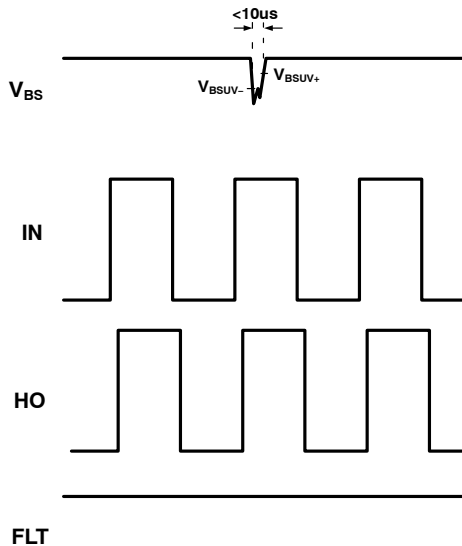

Figure 16. Under-Voltage Condition Shorter than 10 μs
- Within the first 10 μs of an under-voltage condition (see Figure 16):